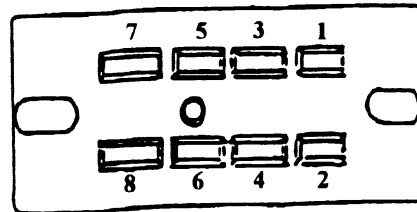

Figure 3
2. Remove the terminal from location 3 of changer socket (See figure 3 above) using the removal instructions on page 3.
4. Remove terminal from location 7 of changer socket (See figure 3, above) using the removal instructions on page 3.
6. Insert wire #3 of the conversion harness in changer socket location 3. (See figure 3, page F1.)
7. Insert wire #4 of the conversion harness in changer socket location 4. (See figure 3, page F1.)
8. Insert wire #7 of the conversion harness in changer socket location 7. (See figure 3, page F1.)
9. Insert wire #8 of the conversion harness in changer socket location 8. (See figure 3, page F1.)